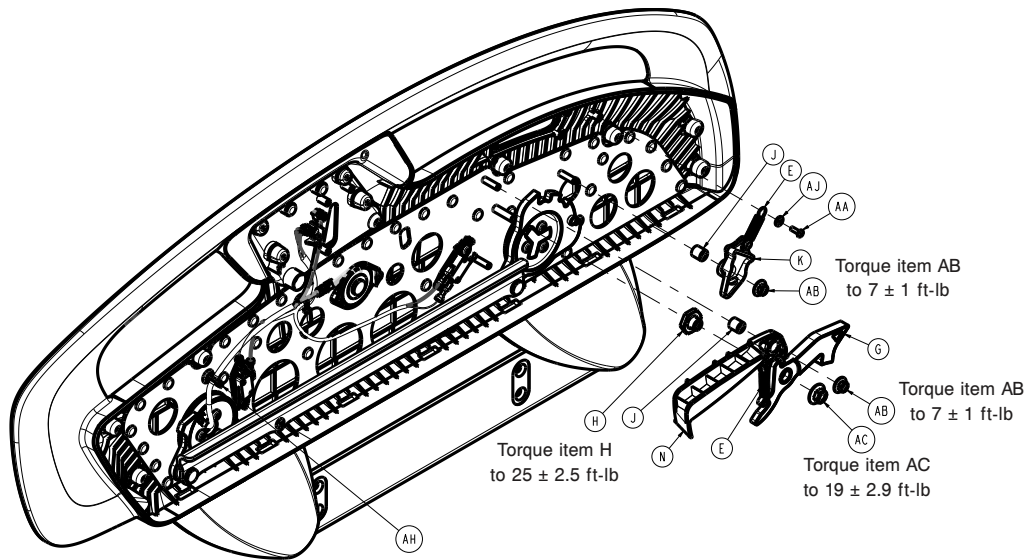

Figure 38 – Replacing the head siderail hoop
16. Using a ratchet and a 1/2" socket, remove the nut (AB) that secure the latch activation lever and latch pawl assembly (G) (Figure 38). Remove and save the activation lever and detent pawl.
17. Using a ratchet and a 9/16" socket, remove the nut (AC) that secures the siderail latch to the siderail hoop (Figure 38). Remove the latch.